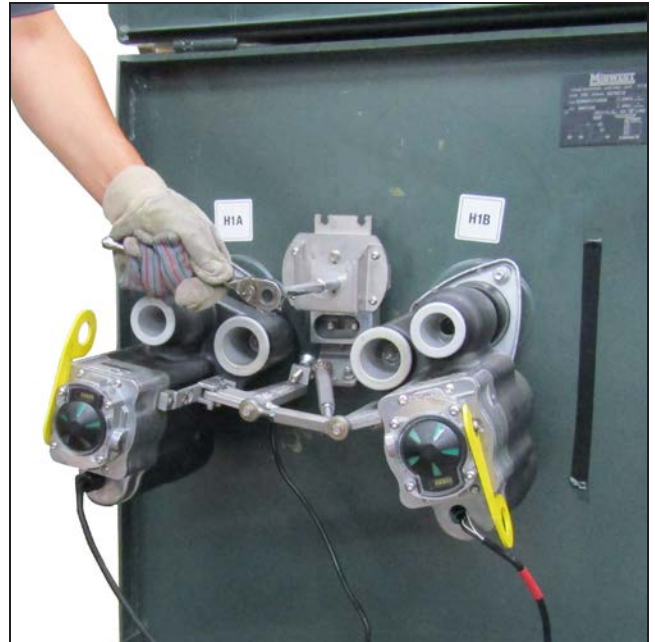
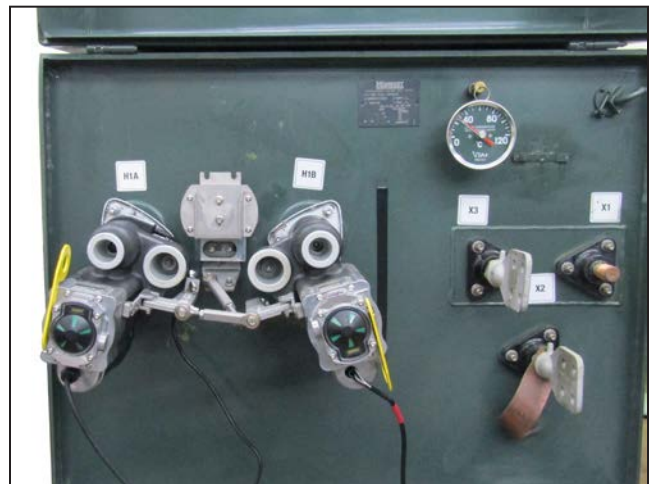

Figure 30. Tightening the bolts.
Figure 31. A complete parking stand spacer installation.
STEP 3. Tighten the two $\frac{1}{4}$ -20 \times $\frac{5}{8}$ -inch flange head bolts to 6 ft-lbs. See Figure 30. This will secure the parking stand spacer to the parking stand. A completed parking stand spacer installation is shown in Figure 31.